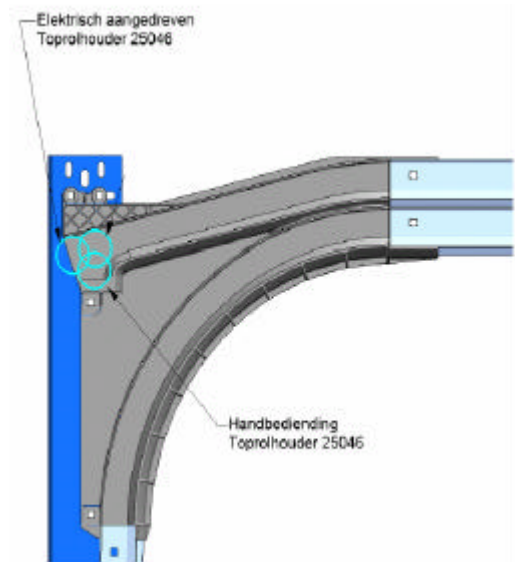

Fig. 15
Place the top section on the middle sections and fit the top roller holder as preferred in accordance with *figure 15*.
The cable is already attached to the ground console. Feed the cable behind the runner shafts. Take hold of the pulley set and loosen the safety nut (1). Now pull the cable through via the pulley. See *fig. 15*.